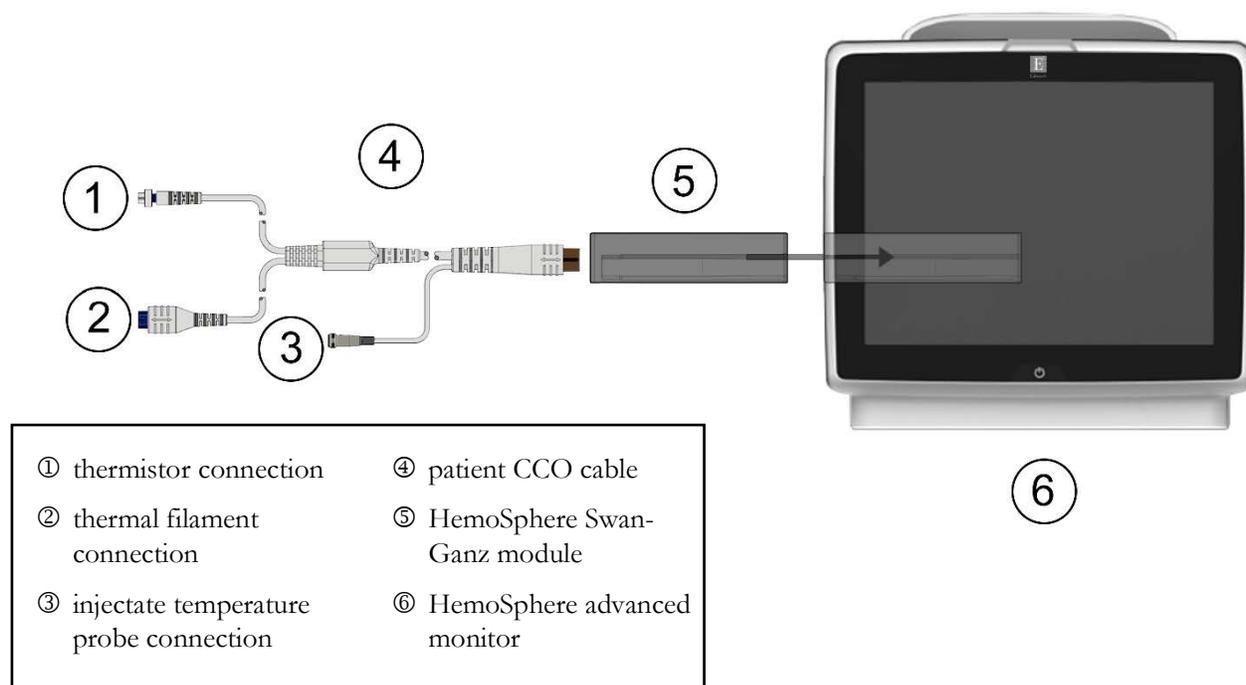

Figure 4-1 HemoSphere Swan-Ganz module monitoring connection overview
Refer to figure 4-1 for HemoSphere Swan-Ganz module monitoring connections.
- 1 Attach the thermistor ① and thermal filament ② Swan-Ganz CCO catheter connections (figure 4-1) to the patient CCO cable.
- 1 Attach the Swan-Ganz or Swan-Ganz Jr catheter thermistor connection (①, figure 4-1) to the patient CCO cable.
- 2 Connect the injectate temperature probe to the injectate temperature probe connector ③ on the patient CCO cable. The injectate system type (in-line or bath) is automatically detected.
- 1 Attach the thermistor ① and thermal filament ② Swan-Ganz volumetric catheter connections (figure 4-1) to the patient CCO cable.